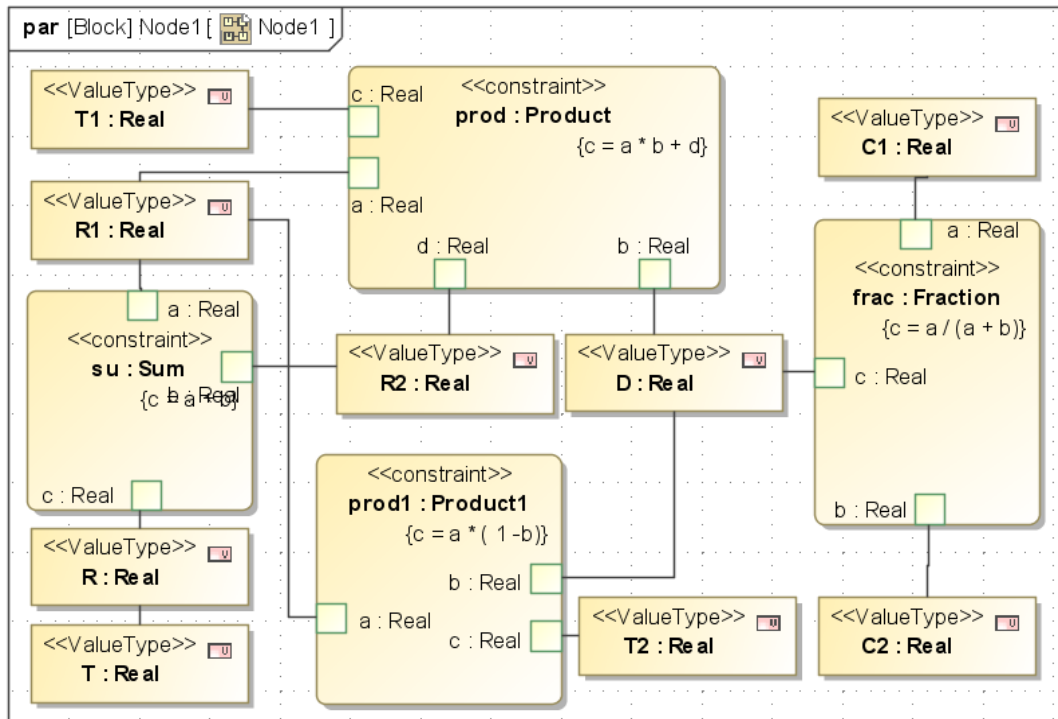

Figure 5.7 Node parametric diagram
5. Create the five constraint blocks required by the model: ErrorRate, Fraction, Product, Product1 and Sum. Usage of these constraint blocks are shown in the parametric diagrams in Figure 5.7 and 5.8, which show the constraints and constraint parameters for each.
- a. Create a parametrics diagram within the Node block, Name = Node. This diagram, shown in Figure 5.7, contains four separate constraint properties, with the constraints shown, the nine internal value properties, and the nested connectors tying them together. In this example, the objective of the equations to redistribute the incoming signal to the two outgoing channels, based on their relative capacities. No claim is made about the realism of this model.